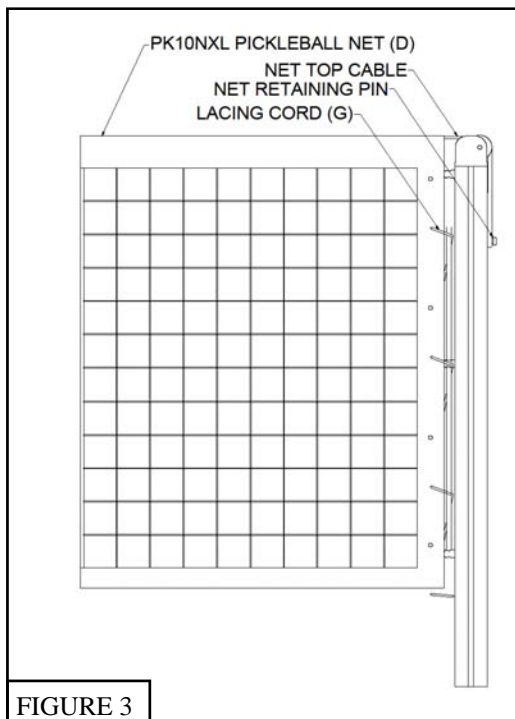

FIGURE 3
6. Hook the loop on the *PK10NXL Pickleball Net* (D) top cable around the net retaining pin on *Non-Winch Post* (B) and over the top pulley. See Figure 3.
8. Insert dowels through the end side tapes of *PK10NXL Pickleball Net (D)*.
9. Square up *PK10NXL Pickleball Net (D)* to each post, use *Lacing Cord (G)* to secure *PK10NXL Pickleball Net (D)* to each post. See Figure 3.